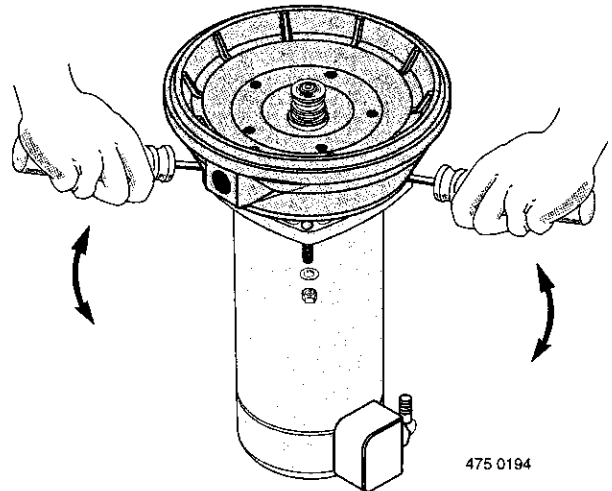

Figure 11
5. Remove pump back half from motor by unscrewing four (4) nuts, Key No. 20, Page 16, and pry back half off of motor by inserting two (2) screwdrivers between the back pump half and the motor flange. Rotating portion of seal will now come off of shaft. Motor is now separated from pump (see Figure 11).